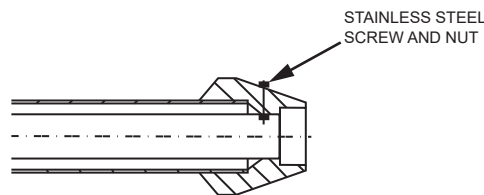

Figure 32. Installing the Rain Cap
- A. Cement Y concentric fitting to larger diameter kit pipe. See *Figure 32*.
- B. Cement rain cap to smaller diameter kit pipe. See *Figure 32*.
Note: Instead of cementing the smaller pipe to the rain cap, a stainless steel screw may be used to secure the 2 components together when field disassembly is desired for cleaning. See *Figure 32*. Locate the drill location dimple on the outside of the rain cap; at this location, drill a 3/16" hole through the cap and the inner pipe wall with the path of the hole perpendicular to the inner pipe **NOT** the outside of the cap; insert the screw and tighten the bolt; do not over tighten.
Note: Instead of cementing the smaller pipe to the rain cap, a field-supplied stainless steel screw may be used to secure the 2 components together when field disassembly is desired for cleaning. See **Figure 32** (page 35).